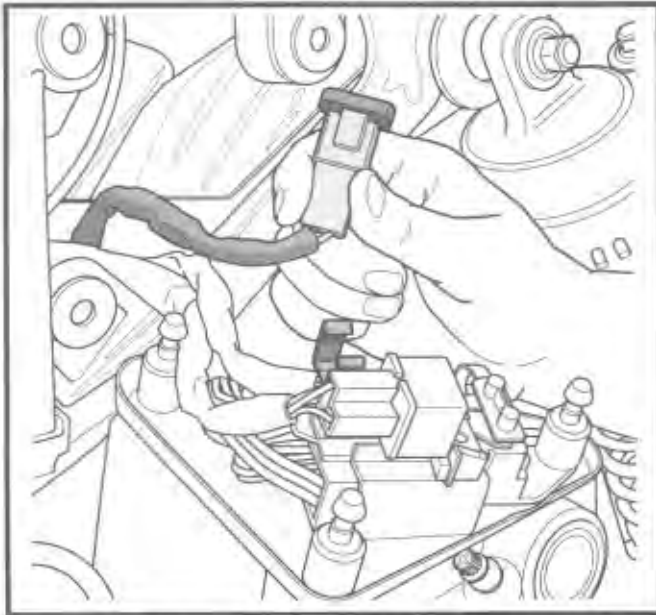

Figure 7-11. Data Link Connector
2. See Figure 7-11. Note the Data Link connector (pin side of 4-place Deutsch) on the side cover.